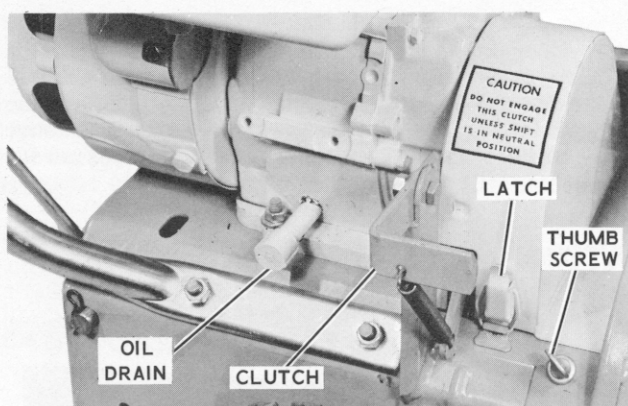

Figure 3
mounted on the right hand side of the unit (figure 3) just forward of the engine.
- a. Remove the belt guard by unsnapping the latch (figure 3) on each side and lifting off the guard.